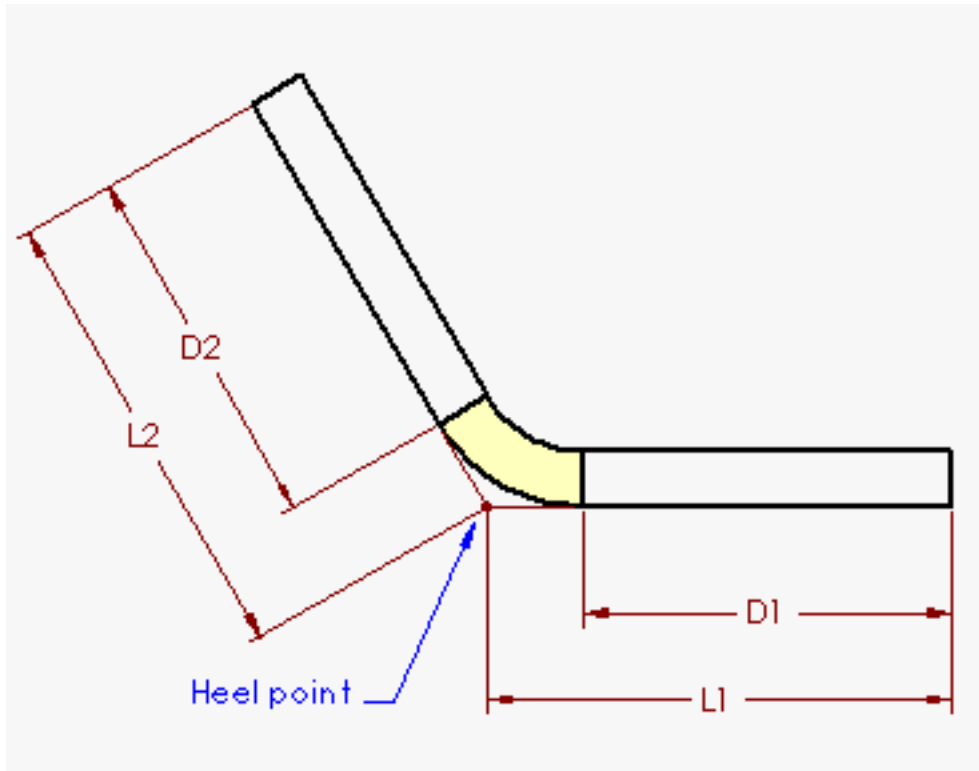
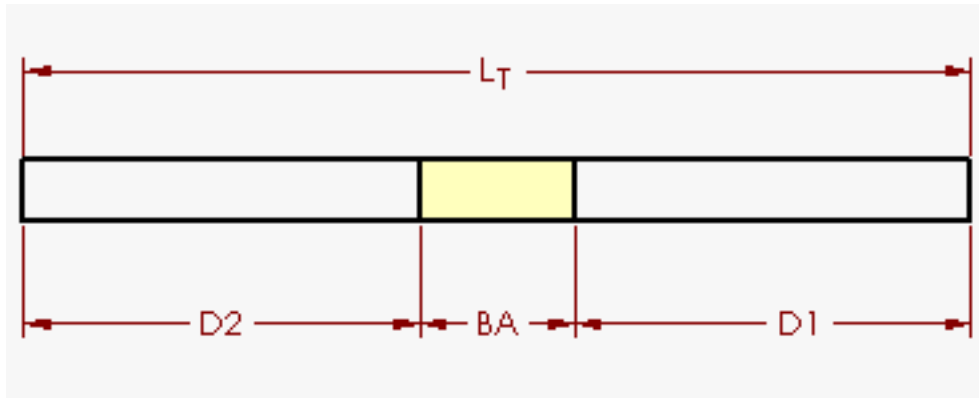
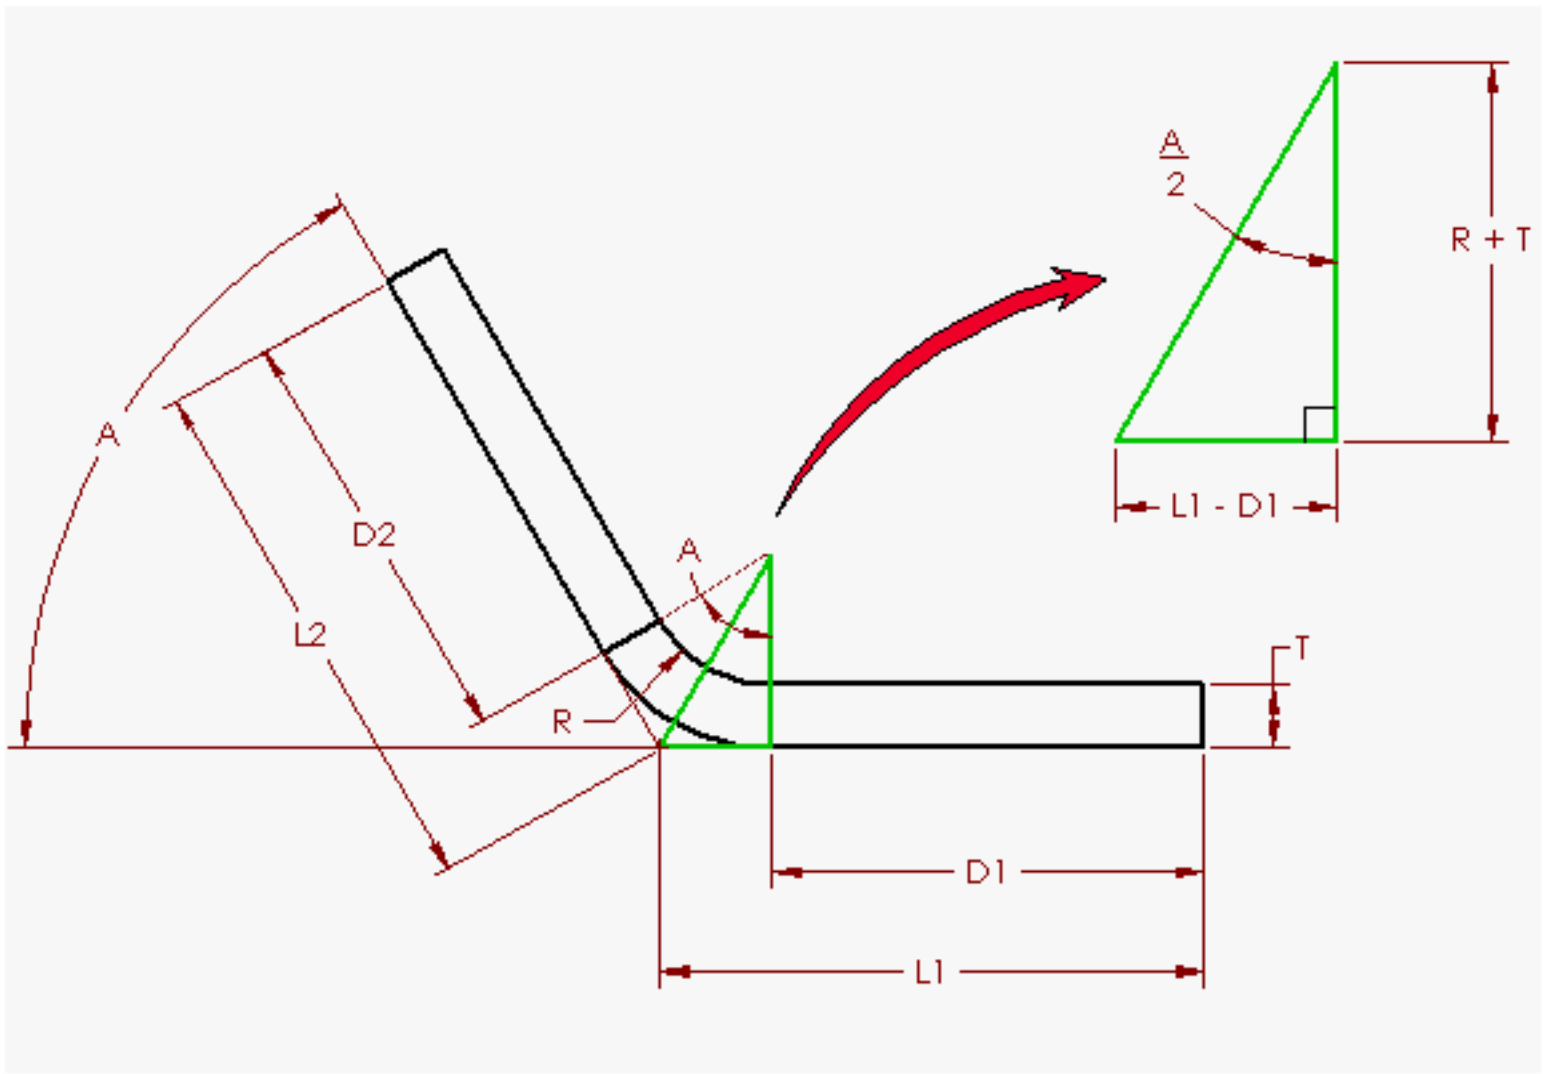

Figure 1
Figure 2
Figure 3
To understand bend allowance, please consider Figure 1 which represents a single bend in a sheet metal part and Figure 2 which represents the flat form of that same part.
Bend deduction, also often referred to as setback (sometimes represented by setback divided by two), is simply a different means by which to represent the sheet metal bending process. Again referring to Figures 1 and 2, the bend allowance method refers to the flattened length of the part (L_T) as the sum of the lengths of the theoretical flat sections extended to the "heel point" (virtual intersection of the flat sides) minus the bend deduction (BD). Therefore, the total length of the part can be represented by the equation:
Please consider the same geometry in Figure 1 with some additional labels as shown in Figure 3:
The angle A represents the bend angle or the angle which the part sweeps through when bending in degrees. This angle also describes the angle of the arc representing the bend region so it is shown in two locations in Figure 3. The inside bend radius is represented by R . Finally, T represents the thickness of the sheet metal part. A right angle triangle used to help form the relationship has been highlighted in green and re-labeled in Figure 3. Based on the labeled dimensions on this right triangle, we can derive the following equation: